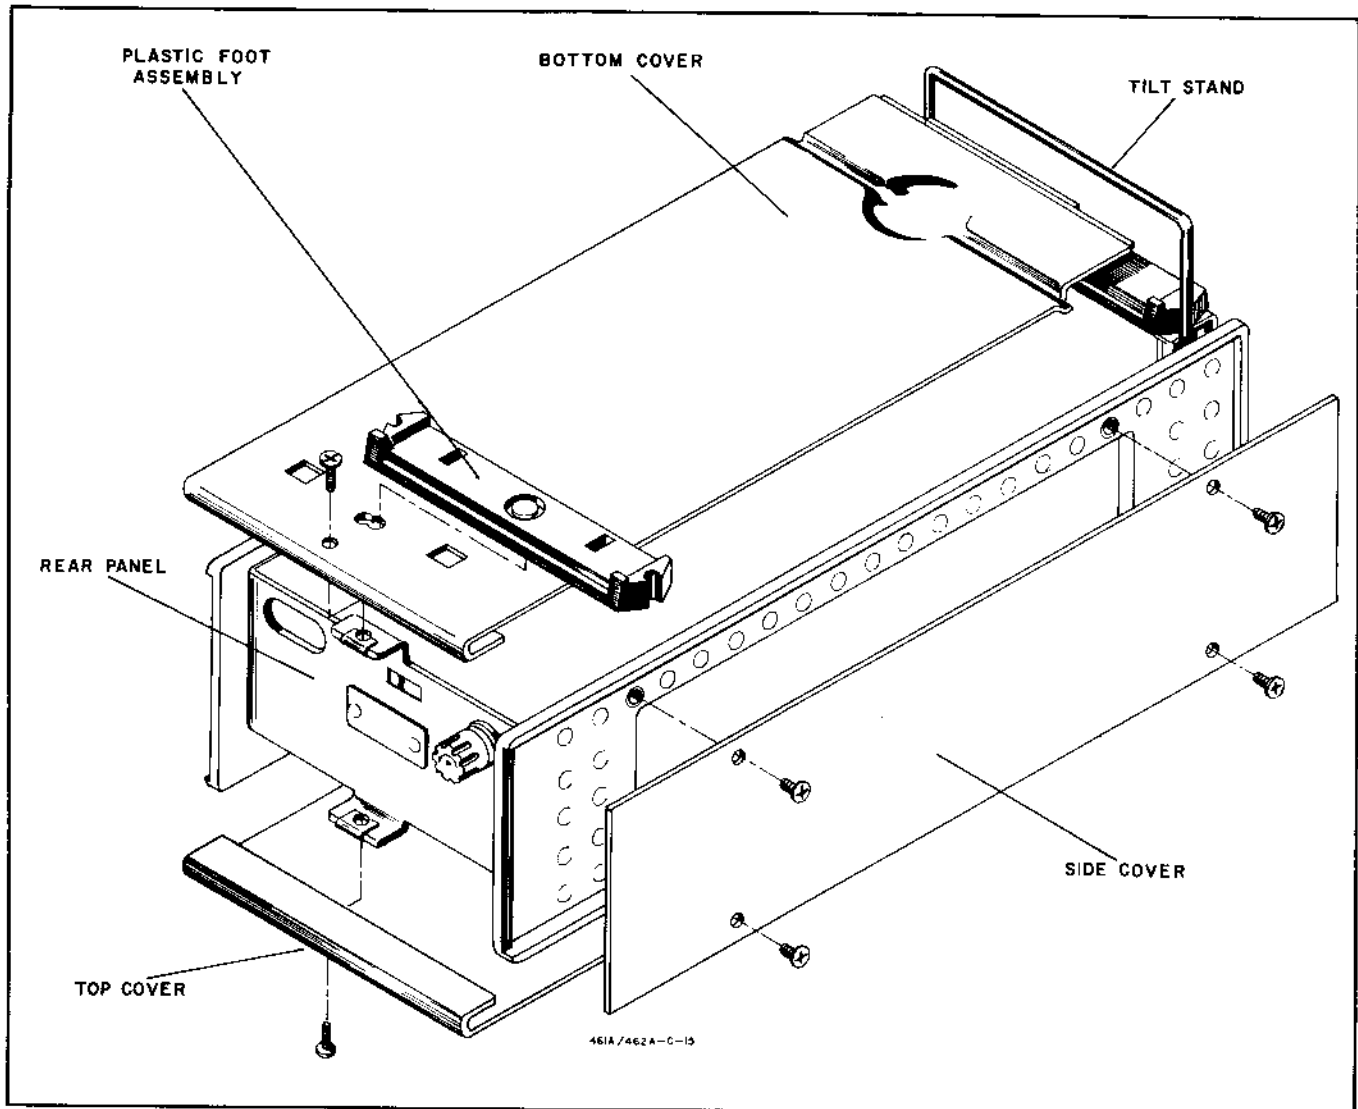

Figure 5-7. Panel Removal and Replacement
5-19. The Model 461A includes top, bottom and two side panels. For maintenance and calibration, only top or bottom covers need be removed. Side panel removal will be necessary only when replacing front or rear panel etc. Panel removal is illustrated in Figure 5-7.
a. Remove top and bottom covers from Model 461A cabinet (refer to Figure 5-7).